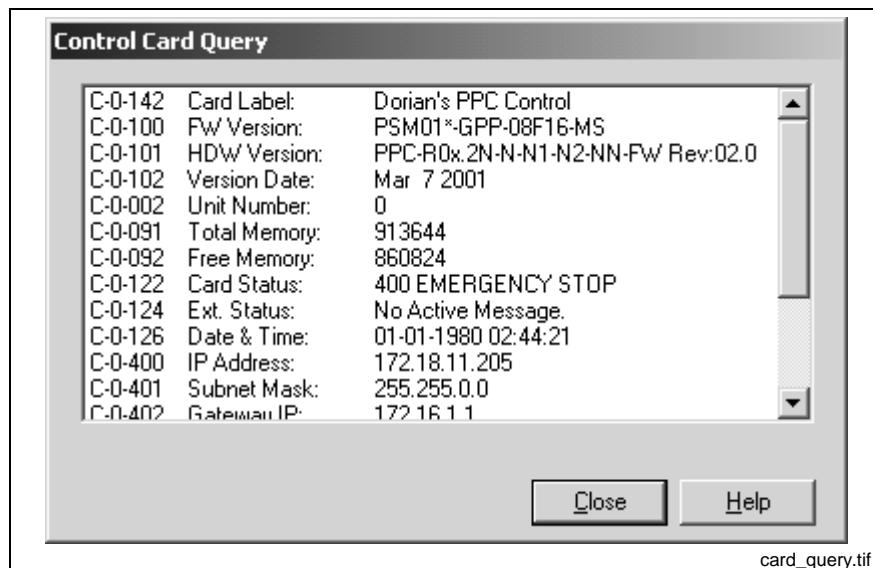

Fig. 9-23: Control Card Query
- Card Query** Double clicking on a green **G**, opens the *Control Card Query* window in Fig. 9-23. From this window, the user can view the control's system configuration as well as the control's network information.